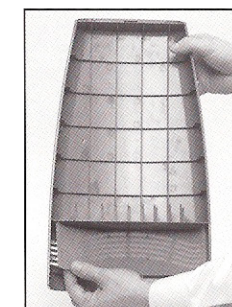

Fig. 14
1. Remove bag compartment cover and locate the post filter on inner bottom of cover [Fig. 14].